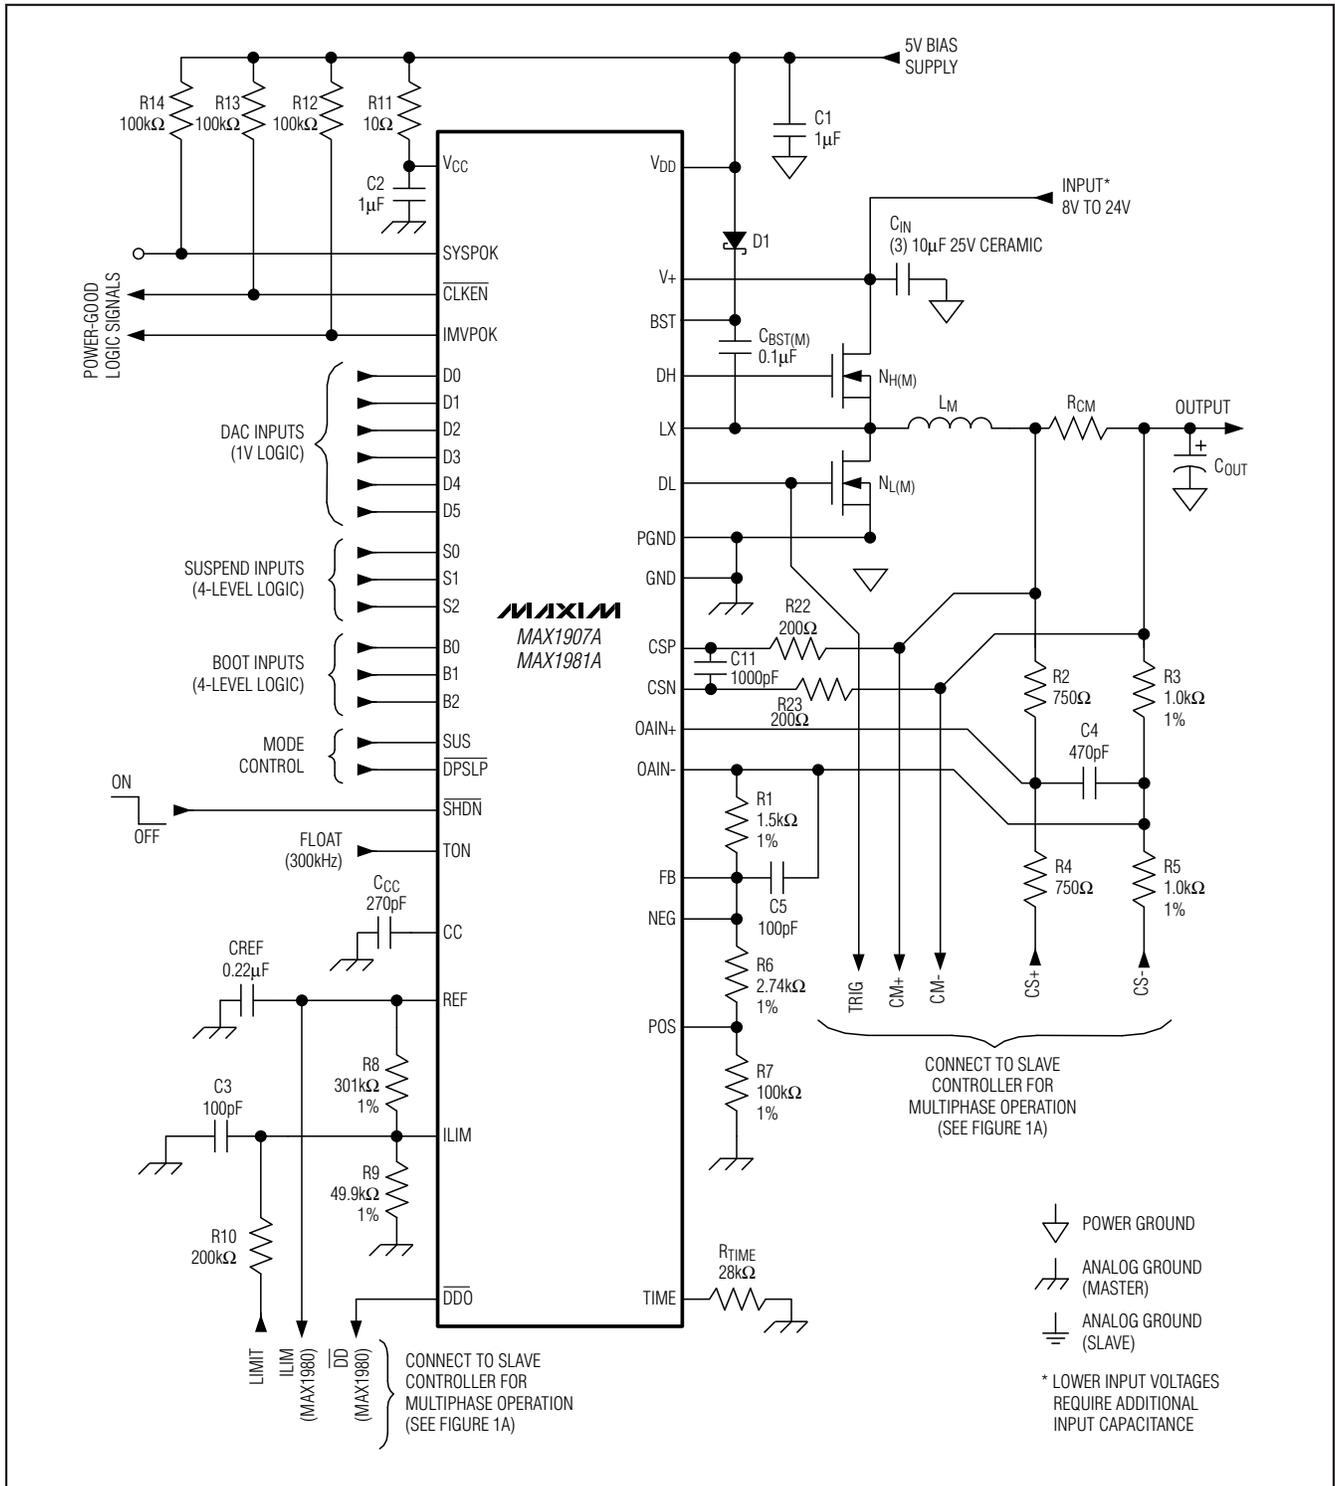
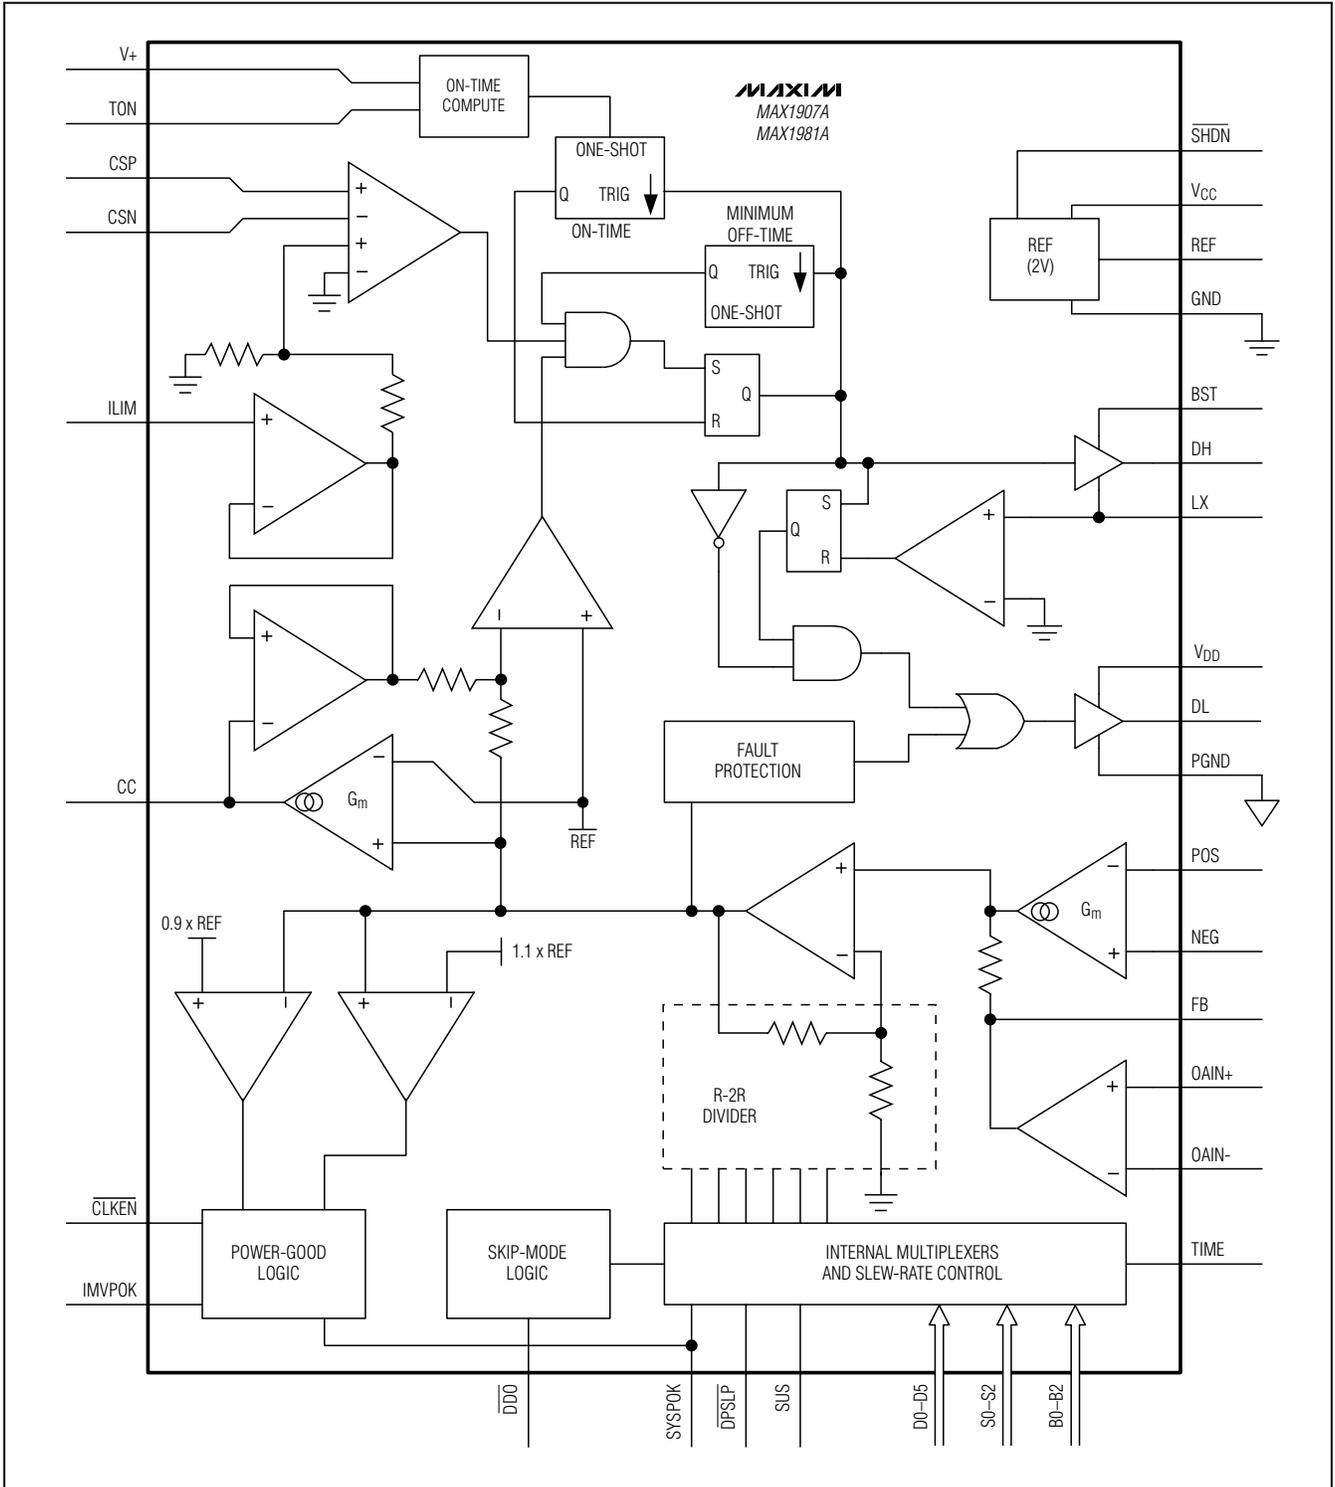

Figure 1. Standard Multiphase Application Circuit
Figure 2. MAX1907A/MAX1981A Functional Diagram
(Circuit of Figure 1,  $V_+ = 12V$ ,  $V_{CC} = V_{DD} = 5V$ , B0–B2 set to 1.276V, S0–S2 set to 0.748V.)
**Table 1. Component Selection for Standard Multiphase Applications (Figure 1)**
The Quick-PWM control architecture is a pseudo-fixed-frequency, constant-on-time, current-mode regulator with voltage feed-forward (Figure 2). This architecture relies on the output filter capacitor's ESR to act as the current-sense resistor, so the output ripple voltage provides the PWM ramp signal. The control algorithm is simple: the high-side switch on-time is determined solely by a one-shot whose period is inversely proportional to input voltage and directly proportional to output voltage. Another one-shot sets a minimum off-time (400ns, typ). The on-time one-shot is triggered if the error comparator is low, the low-side switch current is below the current-limit threshold, and the minimum off-time one-shot has timed out.
Two transconductance amplifiers provide a fine adjustment to the output regulation point (Figure 2). One amplifier forces the DC average of the feedback voltage to equal the VID DAC setting. The second amplifier is used to create small positive or negative offsets to the feedback voltage, using the POS and NEG pins.
The POS/NEG amplifier is used to add small offsets to the VID DAC setting in deep-sleep mode ( $\overline{DPSLP} = \text{low}$ ). The offset amplifier is summed directly with the feedback voltage, making the offset gain independent of the DAC code. This amplifier has the ability to offset the output by  $\pm 200\text{mV}$ . To create an output offset, bias POS and NEG to a voltage (typically  $V_{OUT}$  or REF) within their 0 to 2V common-mode range, and offset them from one another with a resistive divider (Figure 1). If  $V_{POS}$  is higher than  $V_{NEG}$ , then the output is shifted in the positive direction. If  $V_{NEG}$  is higher than  $V_{POS}$ , then the output is shifted in the negative direction. The output offset equals the voltage difference from POS to NEG.
In skip mode ( $SUS$  = high, or  $\overline{DPSP}$  = low), an inherent automatic switchover to PFM takes place at light loads (Figure 3). This switchover is effected by a comparator that truncates the low-side switch on-time at the inductor current's zero crossing. The zero-crossing comparator senses the inductor current across the low-side MOSFET. Once  $V_{LX} - V_{PGND}$  drops below 4mV (typ), the comparator forces DL low (Figure 2). This mechanism causes the threshold between pulse-skipping PFM and non-skipping PWM operation to coincide with the boundary between continuous and discontinuous inductor-current operation. The load-current level at which PFM/PWM crossover occurs,  $I_{LOAD(SKIP)}$ , is equal to 1/2 the peak-to-peak ripple current, which is a function of the inductor value (Figure 4). For a battery range of 8V to 24V, this threshold is relatively constant, with only a minor dependence on battery voltage:
The current-limit circuit employs a unique "valley" current-sensing algorithm that uses a current-sense resistor between CSP and CSN as the current-sensing element (Figure 1). If the current-sense signal is above the current-limit threshold, the PWM is not allowed to initiate a new cycle (Figure 2). Since only the "valley" current is actively limited, the actual peak current is greater than the current-limit threshold by an amount equal to the inductor ripple current. Therefore, the exact current-limit characteristic and maximum load
The inverting (OAIN-) and noninverting (OAIN+) inputs are used to differentially sense the voltage across the voltage-positioning sense resistor. The op amp's output is internally connected to the regulator's feedback input (FB). The op amp should be configured as a noninverting, differential amplifier as shown in Figure 1. The voltage positioning slope is set by properly selecting the feedback resistor connected from FB to OAIN- (see the *Setting Voltage Positioning* section). For applications using a slave controller, additional differential input resistors (summing configuration) should be connected to the slave's voltage-positioning sense resistor (Figure 1). Summing together both the master and slave current-sense signals ensures that the voltage-positioning slope will remain constant when the slave controller is disabled.